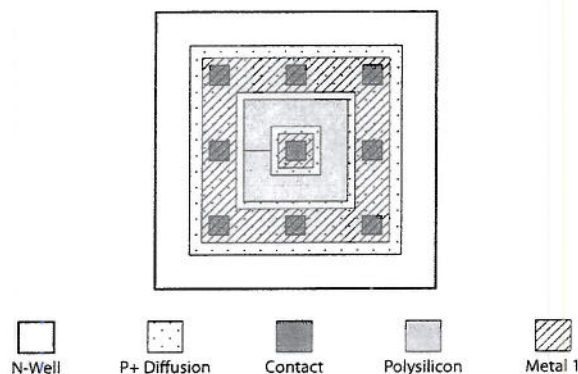

Figure 6.2
- d) The layout to a device often used in implementing *wired-OR* address encoders is shown below in Figure 6.2. Describe the device and explain how this could be used to improve the performance the address encoder.